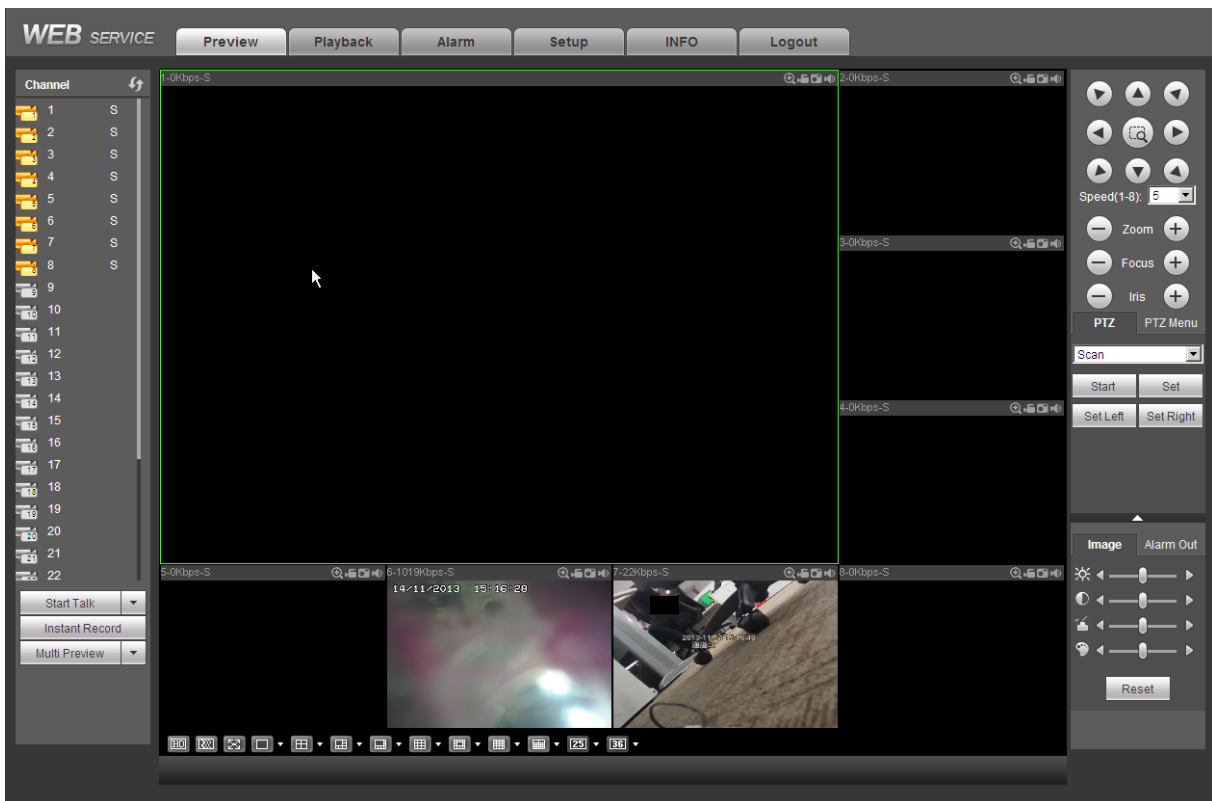

Figure 5-13
- 2) You can select different channels and different monitor modes at the bottom of the interface. See Figure 5-13.